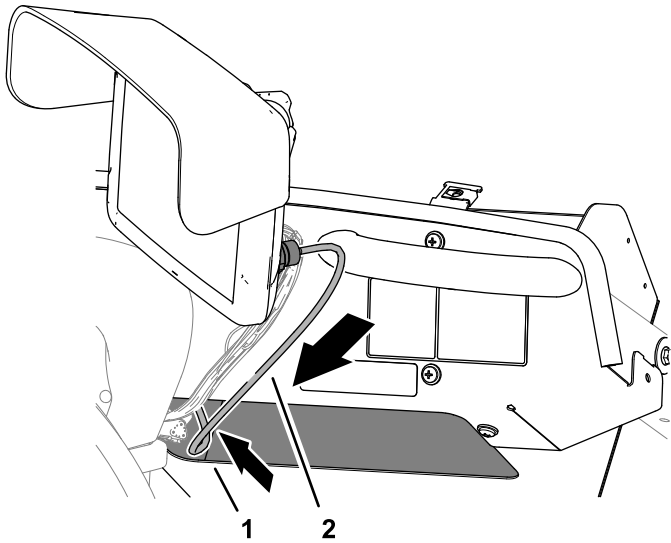

Figure 65
1. Route the modem data cable through the storage compartment (Figure 65).